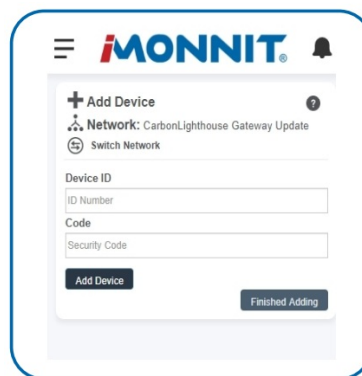

Figure 2
3. Adding your device. See Figure 2.